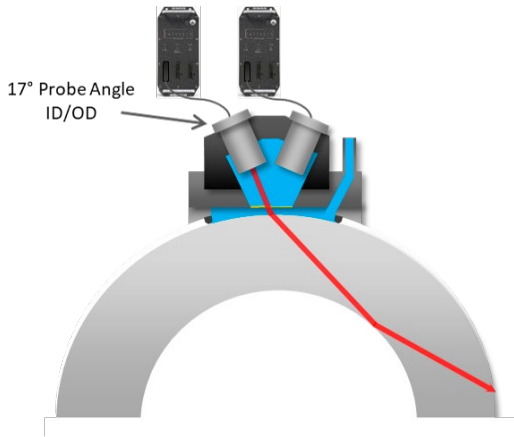

Figure 2: Long ultrasonic sound path with an ID skip inside a heavy WT pipe
For thick-walled pipes, standard ultrasonic inspection methods are sometimes ineffective or inefficient. In some cases, the internal diameter (ID) wall skip can create an especially long sound path, decreasing the signal-to-noise ratio (SNR) (see Figure 2). Conversely, performing UT inspection is also difficult when no ID reflection occurs because the WT/diameter ratio of the pipe is too high (see Figure 3). A lower probe angle can sometimes be used, but this solution has limitations when the pipe WT or ratio is above a certain value. Because of the thick pipe walls, a long water column is required, which adds to the total sound travel path. When using the standard ID reflection method, the longer sound path affects the quality of inspection and slows down the inspection speed, reducing productivity.